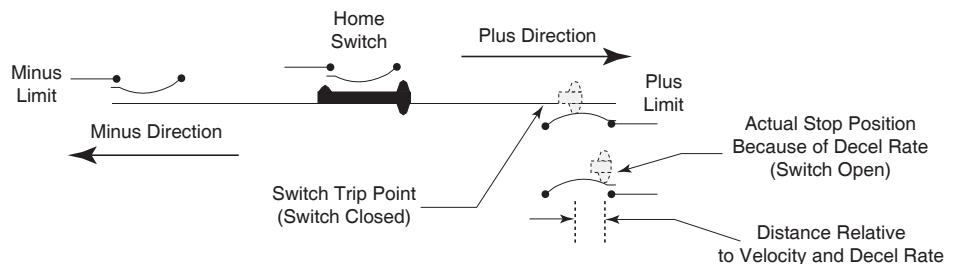

Figure 5.2 Limit modes of operation
Modes	<p>1 Normal Limit function with a decel ramp. The I/O must be set for Limits (S1-S4, S9-S12 Command). If the limit switch in the direction of travel is reached, the motion will decel to a stop. That is, the plus limit works only in the plus direction of travel and the minus limit works only in the minus direction of travel.</p> <p>In Figure 5.2, the Limit is activated at a given position but because of the deceleration rate the motion continues for the duration of the deceleration time. This position may be beyond the trip point of the limit and a subsequent move in the same direction will not stop. A crash may be imminent.</p> <p>If the limit is activated and maintained the software will allow motion only in the opposite direction.</p> <p>If Homing (HM) is active and a limit is reached, the motion will decel to a stop and then reverse direction and seek the Homing Switch. If the Homing Switch is not activated on the reverse and the opposite limit is reached all motion will stop with a decel ramp. (See HM)</p>